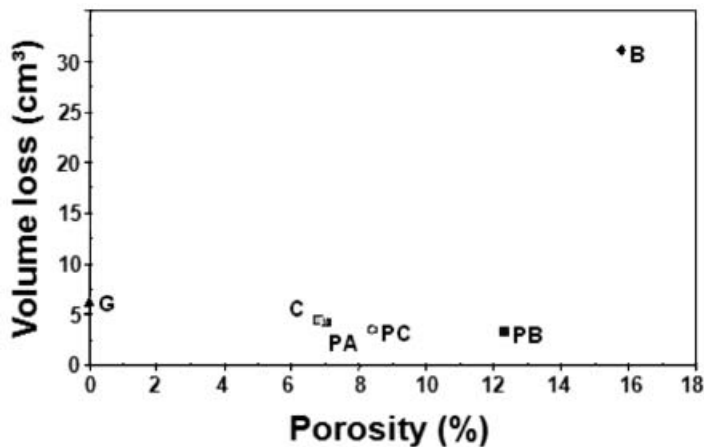

Figure 12. Erosion loss and porosity of tested materials.
**Figure 12** illustrates the relation between erosion loss and porosity of tested materials: aluminosilicate bricks (B), soda-lime glass (G),